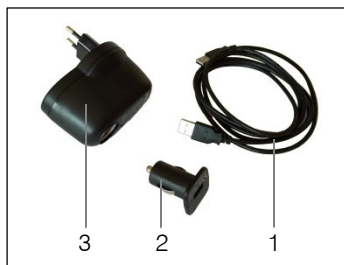

Figure 6
Lithium polymer battery pack should be charged only by means of the supplied accessories (Figure 6). Accessories for charging the battery pack – USB cable (1), USB car charger (2) and AC/DC adapter (3) – are placed in the carrying case.